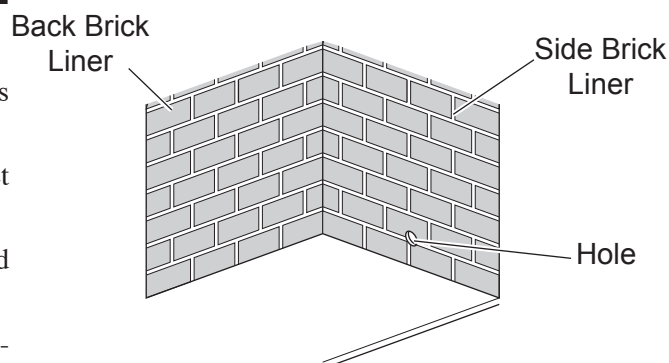

Figure 37 - Hole in Side Brick Liner
2. Lightly tap recessed area with a hammer until a round hole is tapped out. *See Figure 37.*
3. Remove the two (2) screws that hold cover plates on jacket wrap. Discard cover plate.